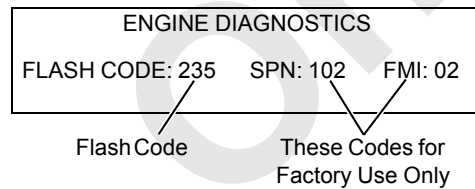

FIGURE 7-4
- Corresponding flash code for each active fault will appear next to FLASH CODE as shown in Figure 7-4.